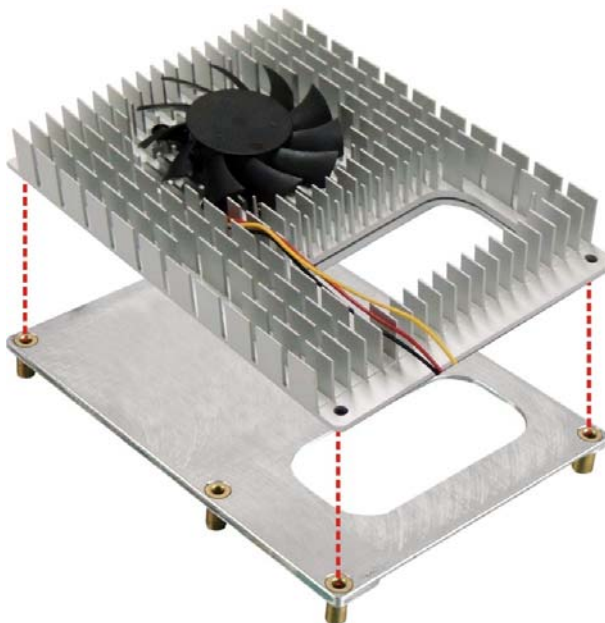

Figure 4-6: Attach the Cooling Kit to the Heatspreader Plate
Step 2: Place the supplied cooling kit on the heatspreader plate, aligning the retention screw holes (**Figure 4-6**). Ensure to apply thermal paste to the heat sink or heatspreader plate for optimum heat dissipation.